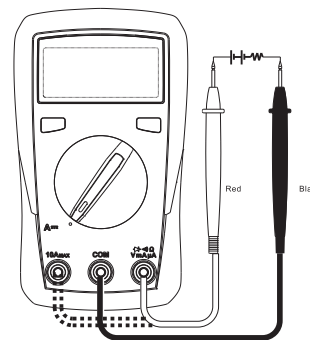

Figure 3
6. DC measurement (see Figure 3)
7. AC measurement (only for UT33A+, see Figure 3)
Please refer to Section 6 "DC measurement (see Figure 3)"